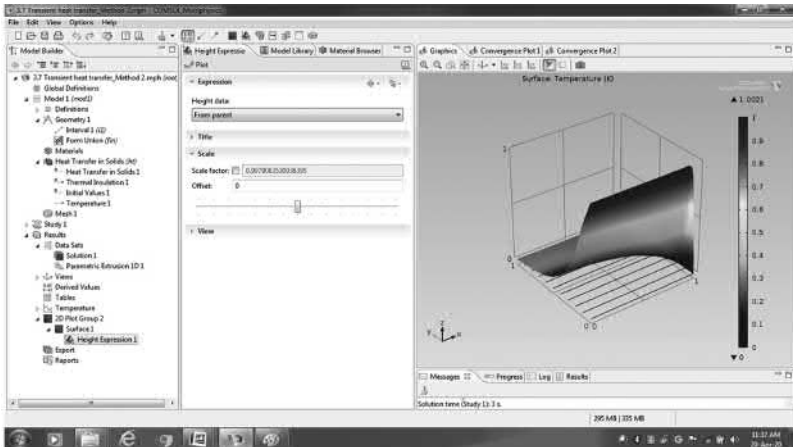

FIGURE 3.20 Solution of Equation (3.22) in 3D plot.
- In the *Model Builder*, right click on the *Results* tab and select the *2D Plot Group* option. Another window will open namely *2D Plot Group 2*. Right click on it and select *Surface*. Another window will open namely *Surface 1*. Then, select *Height Expression* by right clicking on it. A 3D plot appears as shown in Figure 3.20.